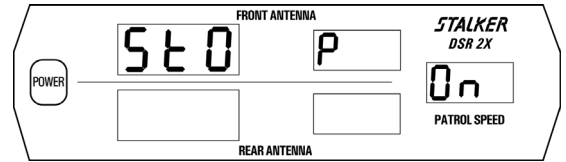
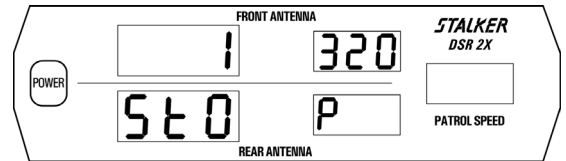

Fig. 31
Fig. 32
1. Enter Stopwatch Mode using the ergonomic remote control by pressing the **MENU** key six times. Use the **↑** and **↓** keys to set **5t0 P** to **0n**. Fig. 31 shows the Stopwatch Mode in its ON setting. Press any of the four **ZONE** keys to exit Setup Mode and enter Stopwatch Mode (shown in Fig 32). The **1320** feet display will normally be a different number – depending upon its previous setting.